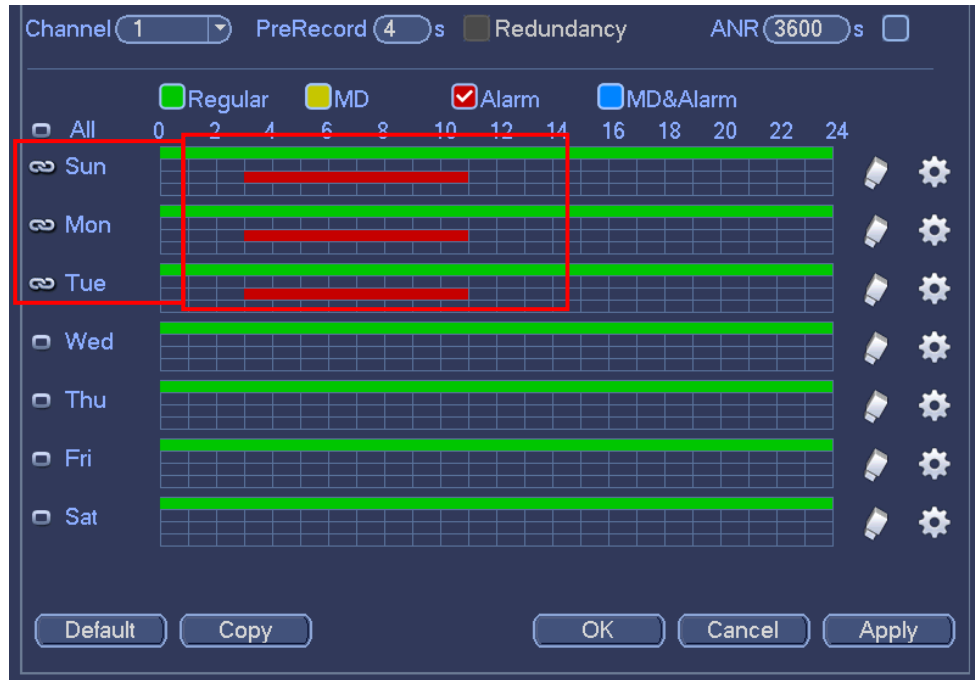

Figure 4-59
- Please draw manually to set record period. There are six periods in one day. See Figure 4-59.